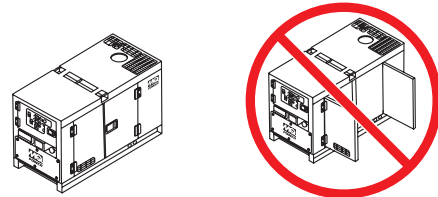

Figure 45. Engine Enclosure Doors
4. Close all engine enclosure doors (Figure 45).